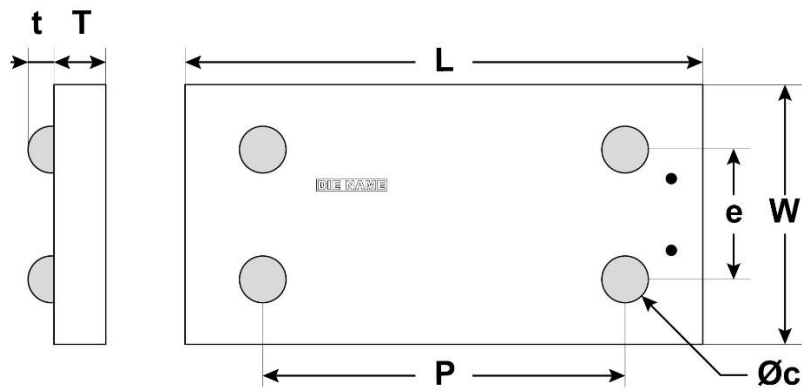

Figure 11 - Package outline Capacitor
- (1) Other film frame carrier are possible on request
- (2) SAC = ENIG (0.1µm Au / 5µm Ni) + SAC305 type 6 or ENIG 0.1µm Au / 5µm Ni
- (3) missing capacitors can reach 0.5%
- (4) Refer to Figure 11.